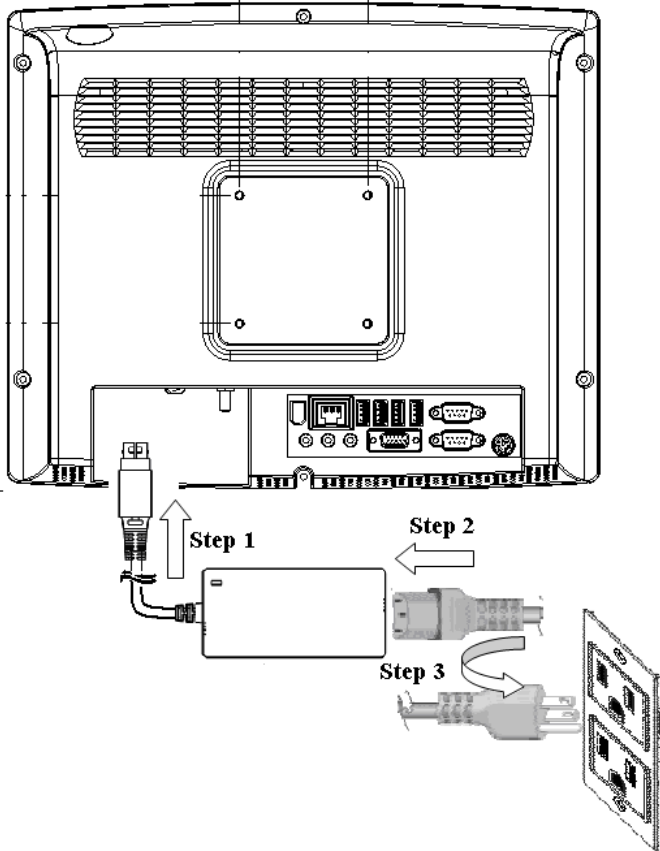

Figure 2.3: Connecting the power cord
1. Connect the female end of the power adapter to the DC jack of the panel PC. (See Figure 2-3.)